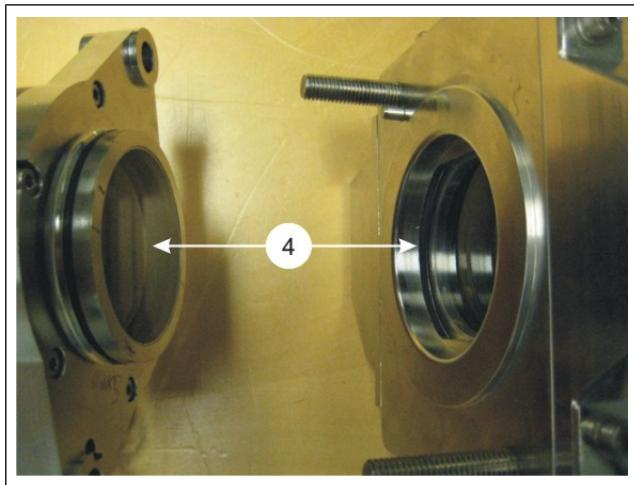

Fig. 11. Cleaning the lenses.
4. Clean the lenses (Fig. 11, part 4) with a cleaning cloth and for example Deconex 26 cleaning chemical.